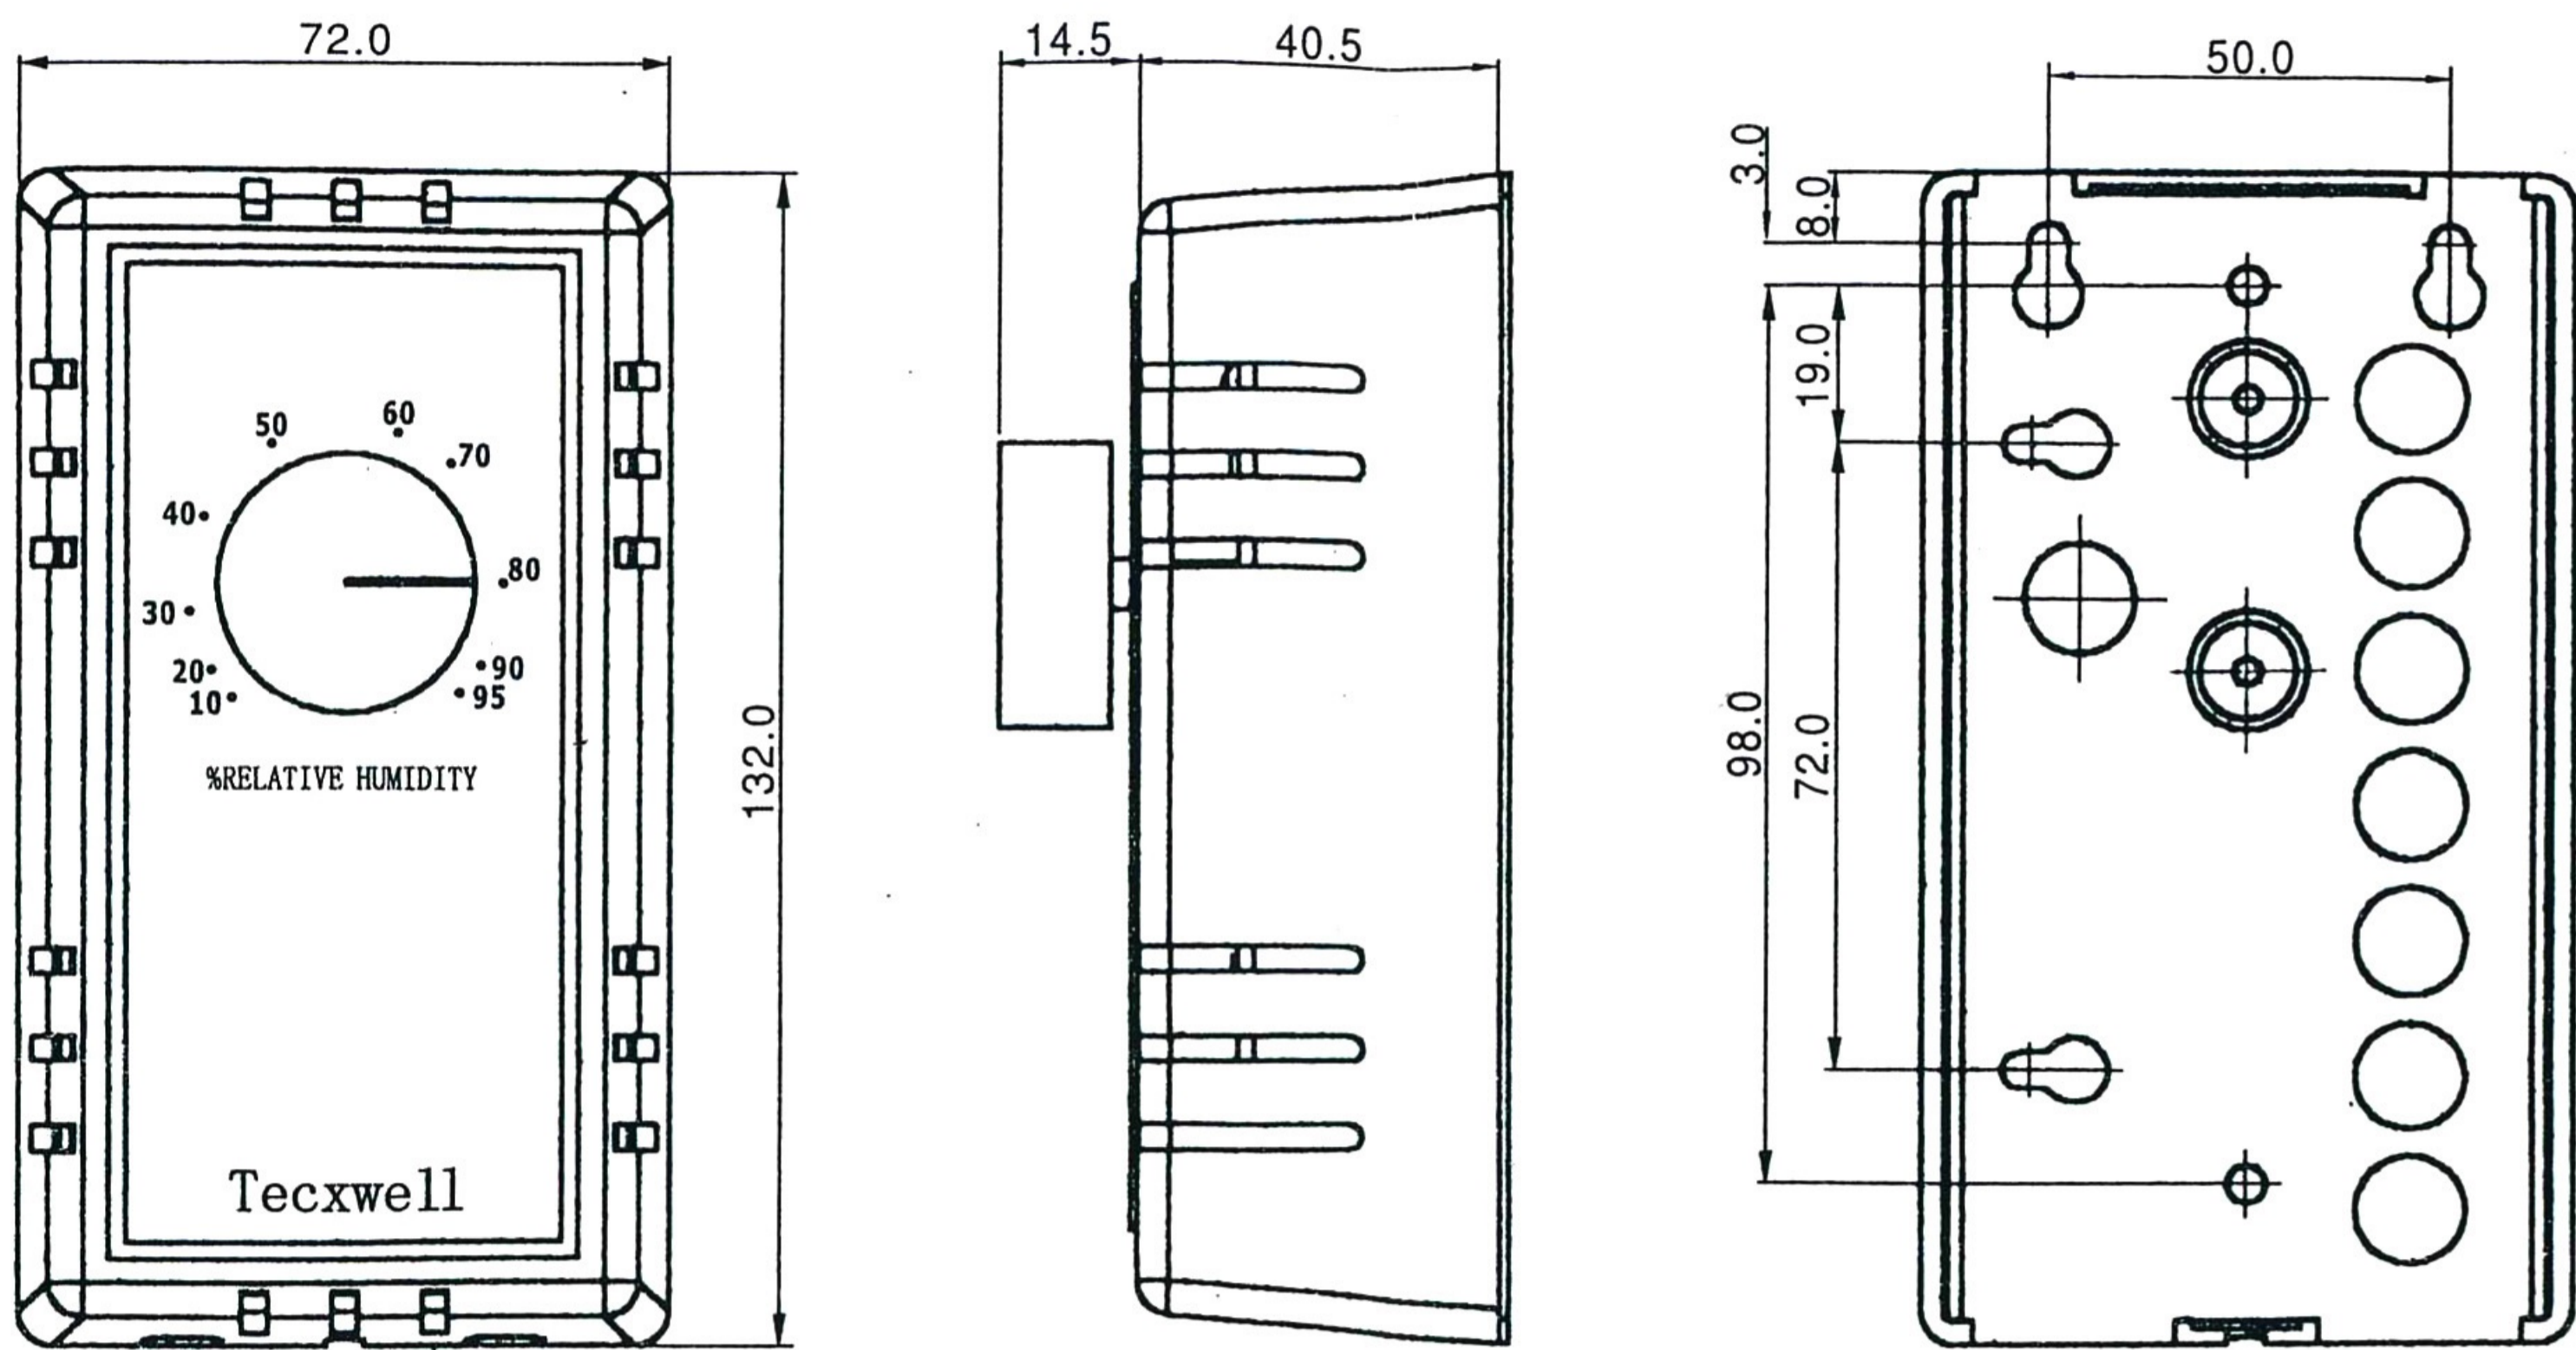

FIG. 1 DIMENSIONS IN MM
4. Installation (See Figure1, 2, 3).